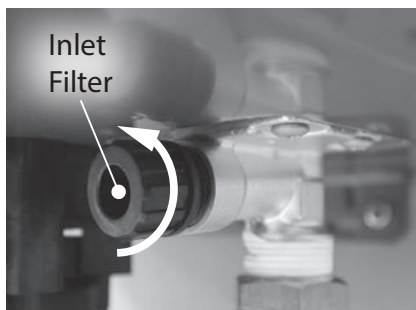

Figure 173 - Removing the inlet filter
- 8 Locate and remove the inlet filter as shown in Figure 173 to drain any residual water left in the system. Place a bucket or pan underneath inlet filter to collect water during removal.